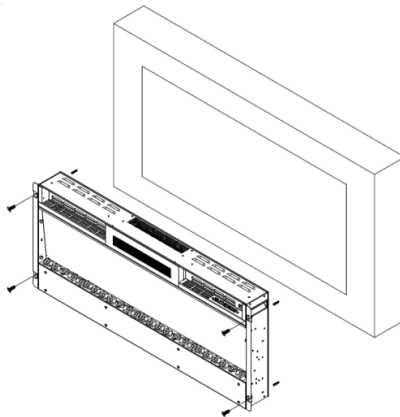

Fig.2
- For optimum viewing, mark the left and right screws (fixing positions on the wall in accordance with the appliance's holes; See Fig.2